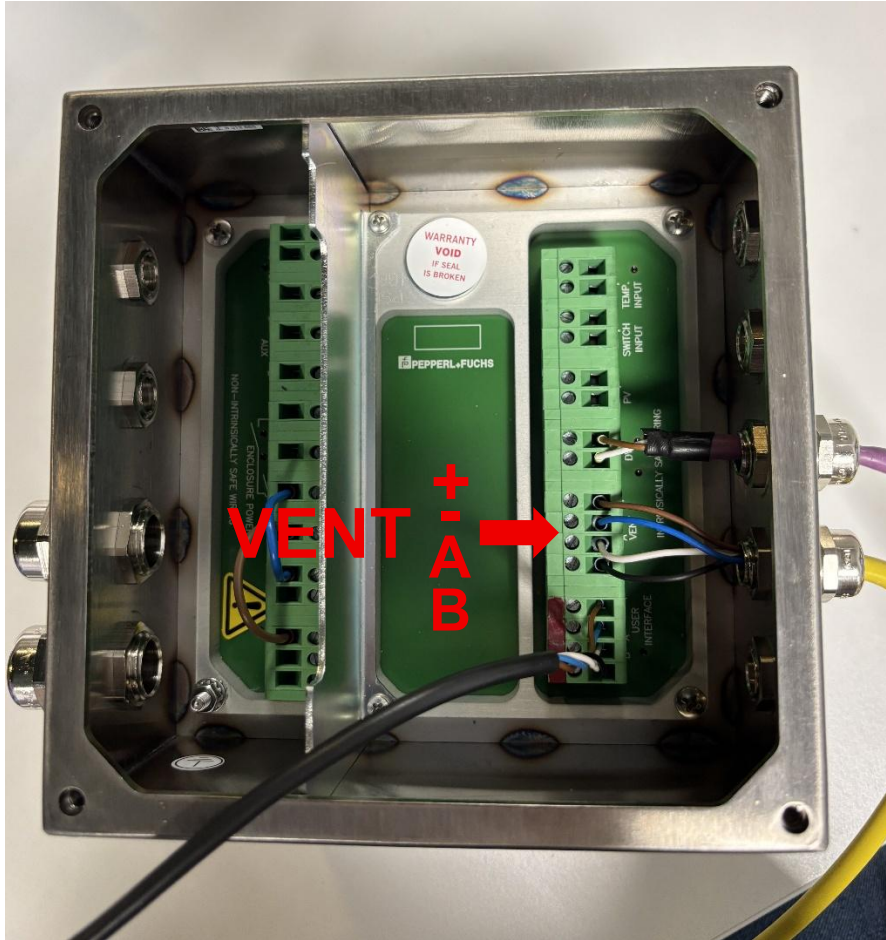
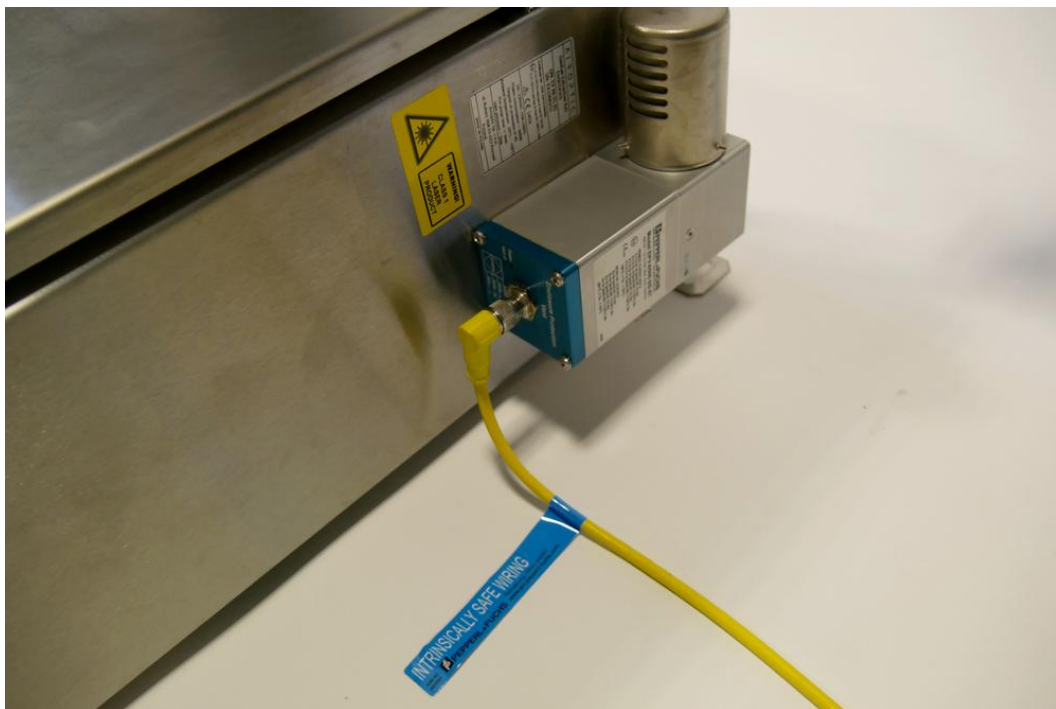

Figure 167. Vent connectors – controller side.
Figure 168. Vent cable installed.
1. Connect the relief vent communication cable (8) between the purge controller (3) and the relief vent (2). On the controller side, lead the cable through the M12 gland.
2. Figure 167 After installation, affix the included blue stickers with the words “Intrinsically safe wiring” to both ends of the cable (Figure 168).